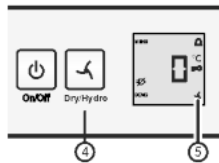

Fig. 3
- ▶ Setting **hydro**: Press the dry/hydro *Fig. 3 (4)* button until the  symbol appears. Release the button.
- ▷ The dry/hydro *Fig. 3 (5)* symbol lights up.
- ▶ Setting **dry**: Press the dry/hydro *Fig. 3 (4)* button until the  symbol goes out. Release the button.